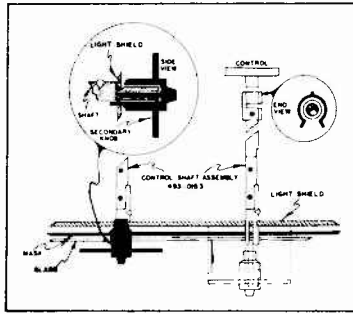

FIGURE 2
- Volume, Contrast, Brightness and HaloLight Knobs. See Figure 2.
- Remove screws (2) securing escutcheon to cabinet. Remove escutcheon.
- To replace chassis, reverse the above procedure, engaging secondary controls by pressing ends of shaft assemblies over control shafts. See Figure 2.
2. Volume, Contrast, Brightness and HaloLight Knobs. See Figure 2.
- B. Remove screws (2) securing escutcheon to cabinet. Remove escutcheon.